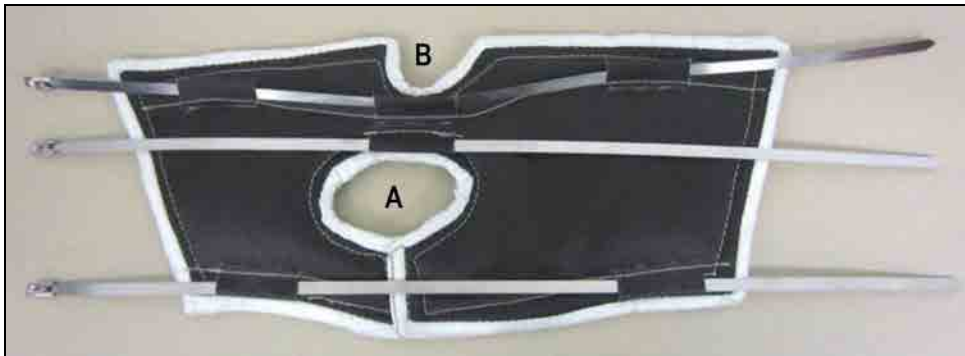

Figure 3
- 4) With the fuel line out of the way, install the #22595824 Insulating Wrap around the diffuser pipe with the nozzle sticking out of the wrap opening (A) as shown in Figure 3 and 4 below (the notch in the insulating Wrap (B) goes toward the front of the vehicle).